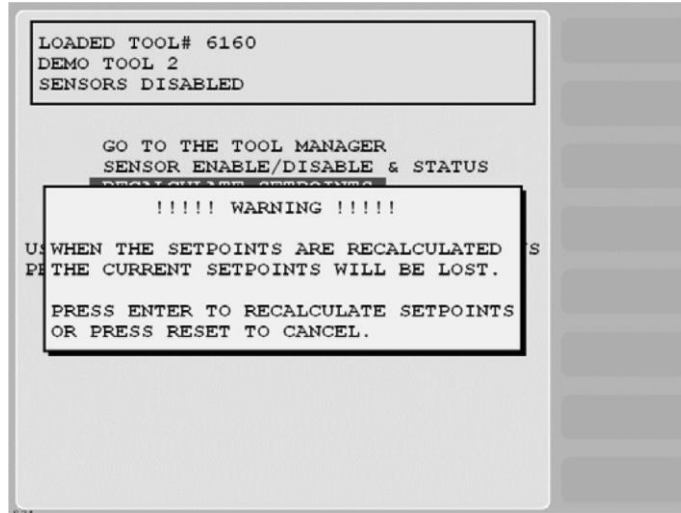

Figure 4-12. Main Program Menu with “RECALCULATE SETPOINTS” Warning Displayed
1. Select the RECALCULATE SETPOINTS item on the Main Program Menu. The warning message shown in Figure 4-12 displays.